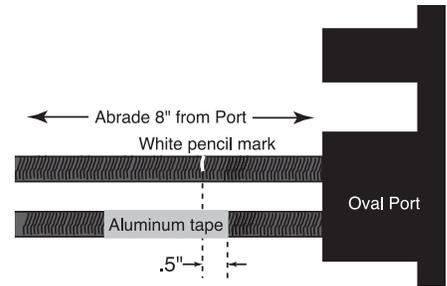

Figure 19
5. Wrap one lap of aluminum tape around each cable. The edge of the tape closest to the closure should be 1/2" inside the white mark on the cable as shown in Figure 19.